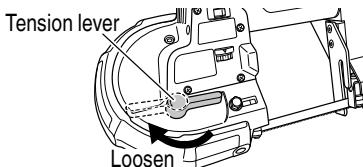

Fig. 16
- (1) Loosen the tension lever in the direction indicated in the figure. (Fig. 16)
(2) Remove the band saw blade first from pulley guard (C) (① in the figure), then from blade pulley (A) and blade pulley (B), and lastly from the guide rollers section (② in the figure) to remove it completely.